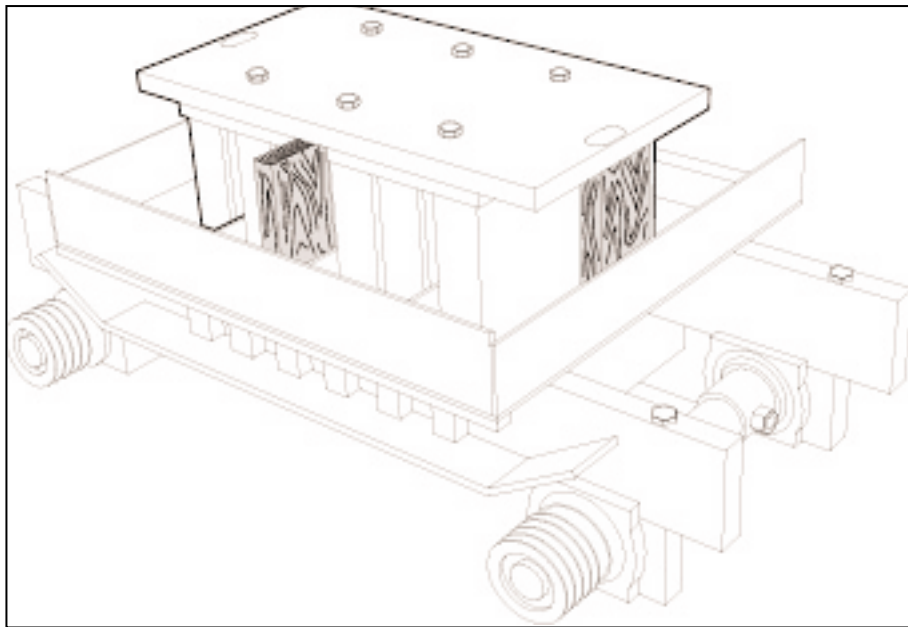

Figure 5.2 WOODEN BLOCKINGS IN MOLD.
- 5.3.8 Put 2 X 4's wooden blockings in mold as shown in figure 5.2. Use two pieces of 2" x 4" x 8" wood blocking, and one piece of 2" x 4" x 7-1/2" to assure a space between stripper head plate and mold top plate. Use the 8" blockings in the rear corners and the 7-1/2" blocking in the front center to clear bolt holes in the stripper head top plate